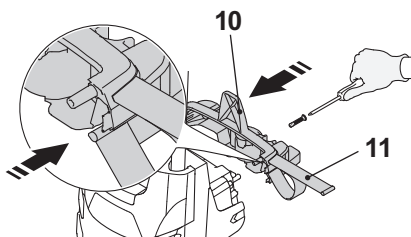

Fig. 1
- > Align supply cord storage belt (11) with the grooves of the accessories holder. Then attach the accessories holder (10) to the back of the washer using two screws (20) (Fig. 1).